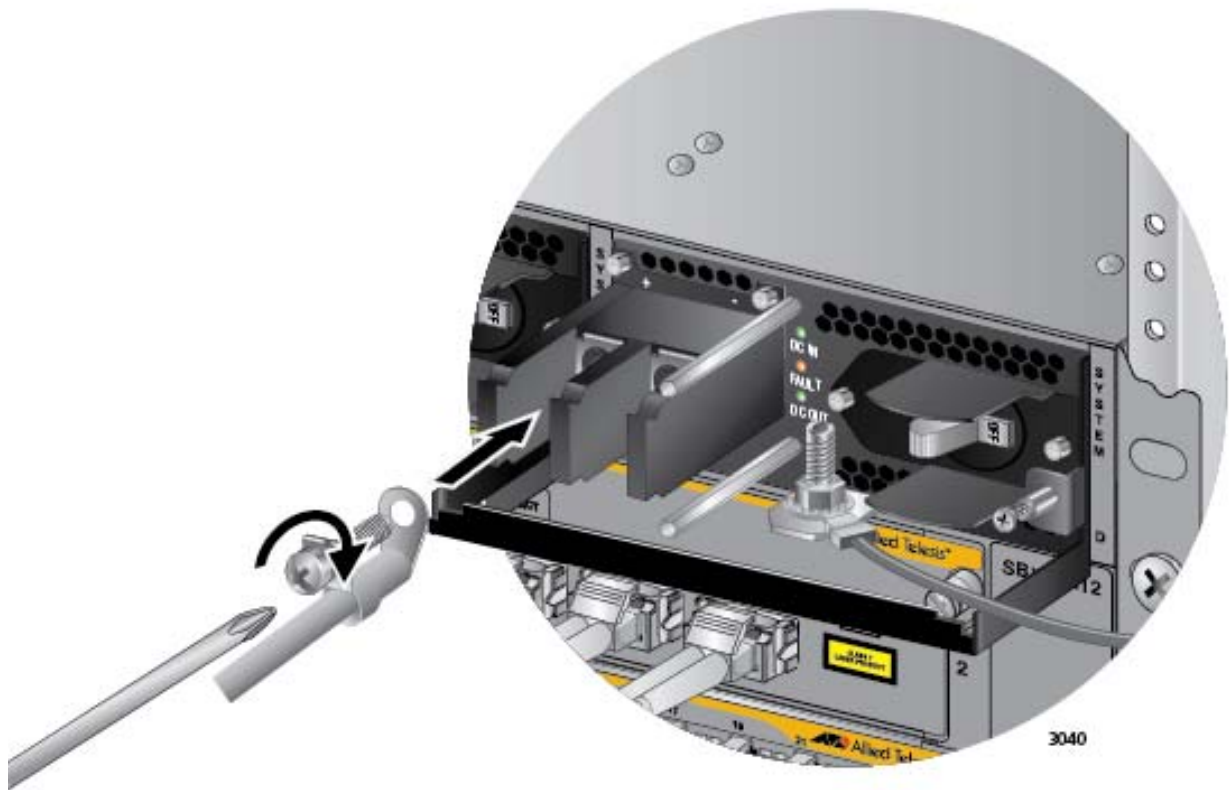

Figure 133. Connecting the Positive (+) Power Wire with a Right Angle Terminal
6. With a #3 Phillips-head screwdriver, connect the positive (+) power lead wire to the positive terminal on the power supply, with one of the terminal screws removed in the previous step. The positive terminal is on the left. Refer to Figure 133 on page 199.